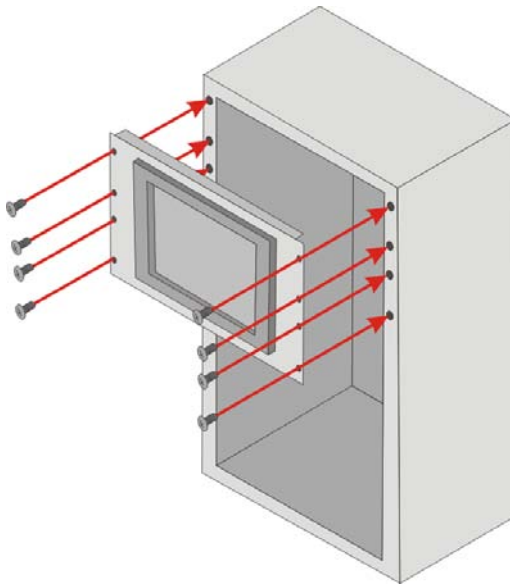

Figure 3-25: Install into a Rack/Cabinet
Step 4: Slide the LCD monitor with the attached rack/cabinet bracket into a rack or cabinet (**Figure 3-25**).
Step 5: Once the LCD monitor with the attached rack/cabinet bracket has been properly inserted into the rack or cabinet, secure the front of the rack/cabinet bracket to the front of the rack or cabinet (**Figure 3-25**).